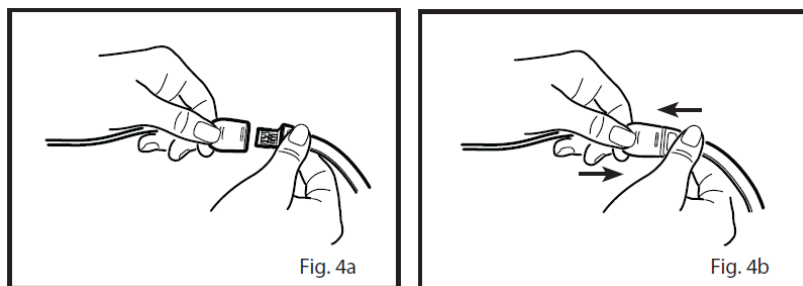

Fig. 26 Connecting RD SET Patient Cable to RD SET Sensor
- 1 See Fig. 4a in Fig. 26: Orient the sensor's connector tab so that the side with the "shiny" contacts is facing up. Orient the patient cable with the color bar and finger grips facing up.
- 2 See Fig. 4b in Fig. 26: Insert the sensor tab into the patient cable until there is a tactile or audible click of connection. Gently tug on the connectors to ensure a positive contact. Tape may be used to secure the cable to the patient to prevent movement.